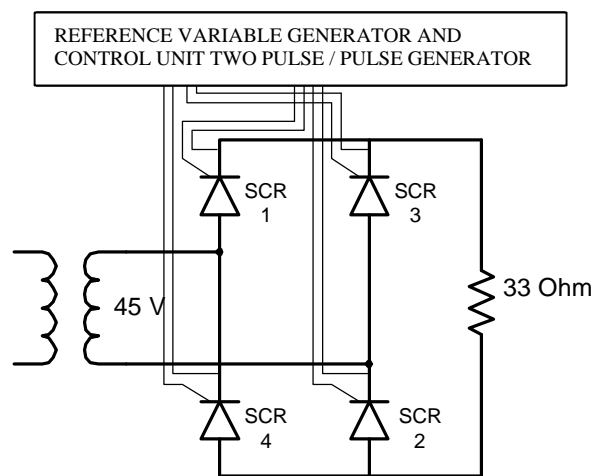

Figure 4
- i) Connect the circuit as shown in Figure 4. Set α to 0, 45, 90 and 135.